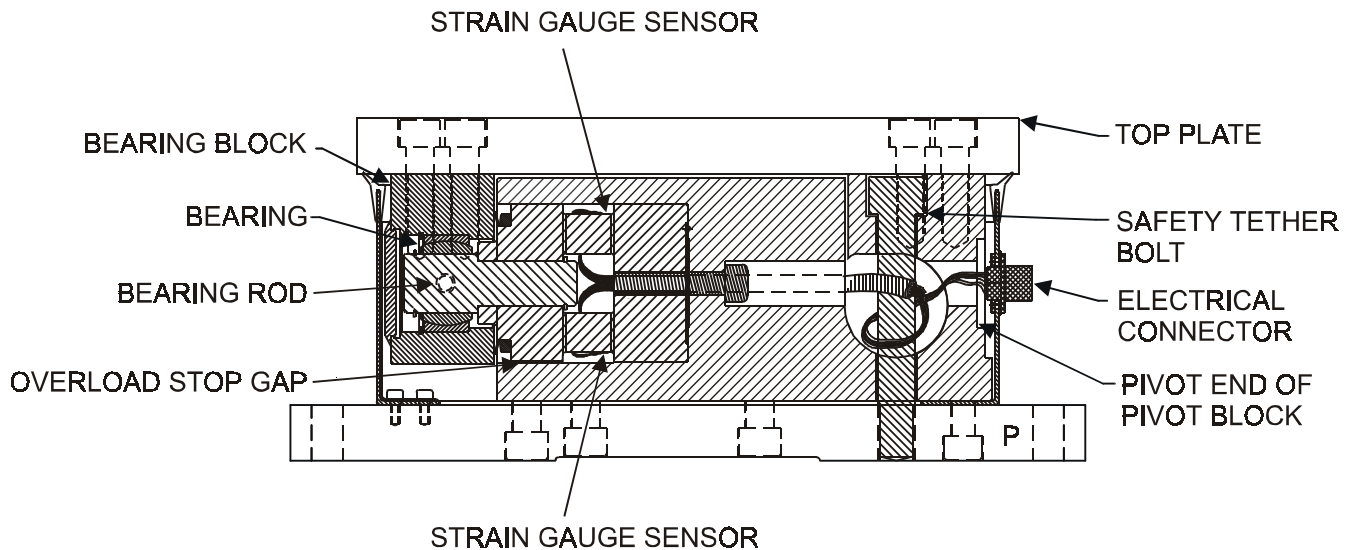

Figure 1 - CUT-AWAY VIEW OF MODEL SUPB TRANSDUCER
1.2 CONSTRUCTION AND MECHANICAL OPERATION (see Figure 1)